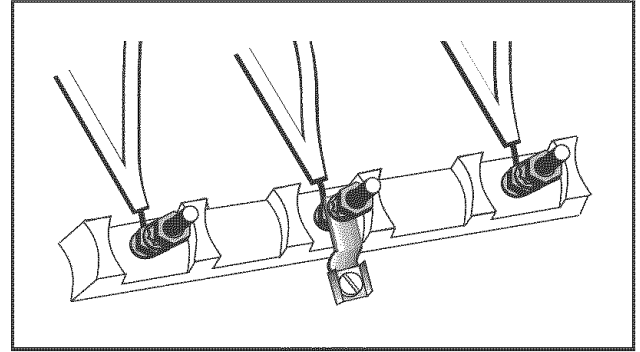

Figure 6
2. Remove the terminal block cover to expose the terminal block (See Figure 6).